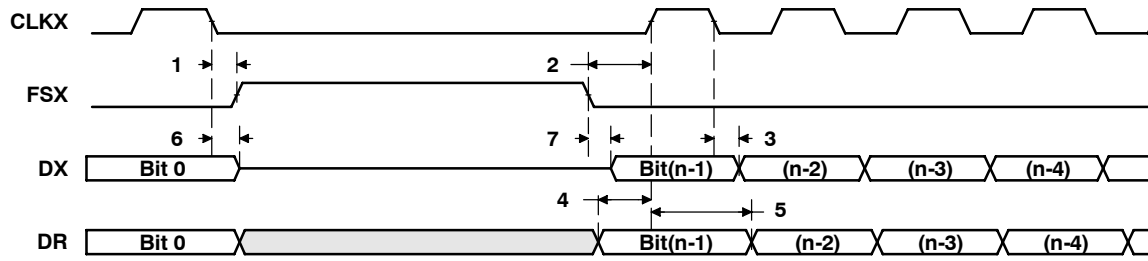

Figure 51. McBSP Timing as SPI Master or Slave: CLKSTP = 11b, CLKXP = 0
**timing requirements for McBSP as SPI master or slave: CLKSTP = 11b, CLKXP = 0†‡ (see Figure 51)**
**switching characteristics over recommended operating conditions for McBSP as SPI master or slave: CLKSTP = 11b, CLKXP = 0†‡ (see Figure 51)**